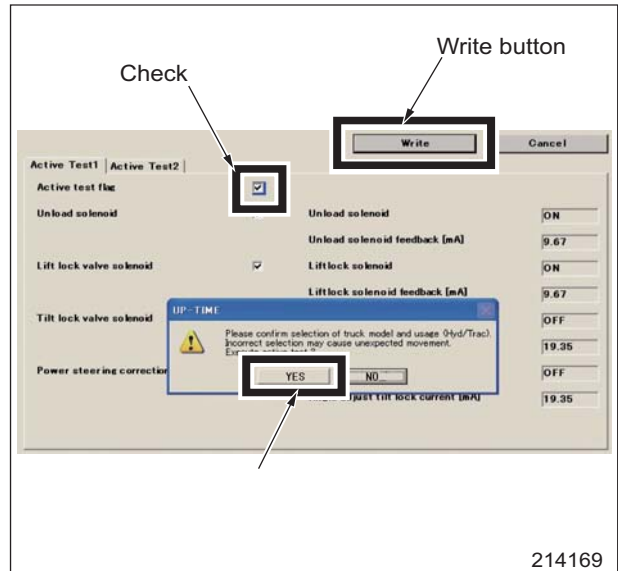

Fig. 1-8 Active test check screen
- (3) Check the box of the active test flag, and press the write button. (Fig. 1-8)